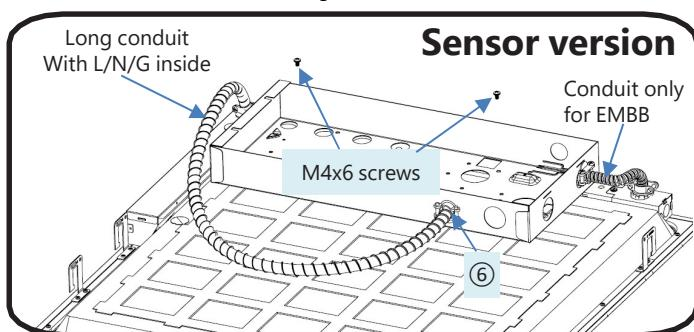

Fig 10
**For Sensor version**, install the long conduit and its fittings into holes ⑥ of box. See Fig 10.